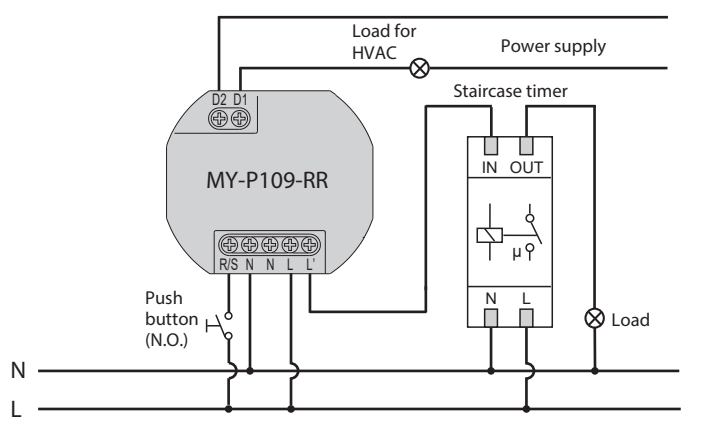

FIG.6
3.3.1.2 Staircase timer switch controlled by one sensor (Time1 should be set to $\sqrt{1s}$ see FIG.6)